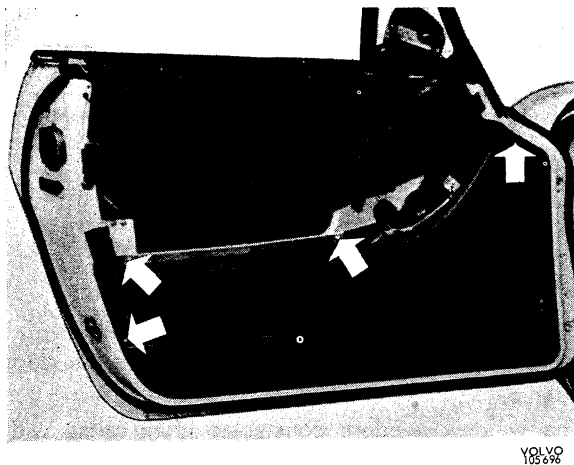

Fig. 8-10. Screws for lower door upholstery panel
4. Then release the two screws for the strip on the upper edge of the lower upholstery section (see Fig. 8-10) and the two screws in the upholstery. Then repeat as above by inserting a screwdriver or similar in under the edge of the upholstery and levering outwards. This part of the upholstery can be drawn straight out and the armrest will accompany it.